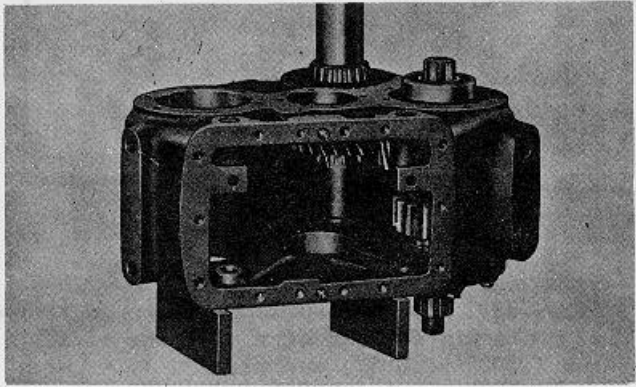

Fig. 29
12. Press rear bearing on shaft with a suitable sleeve (Fig. 29); then tap bearing cup into position.